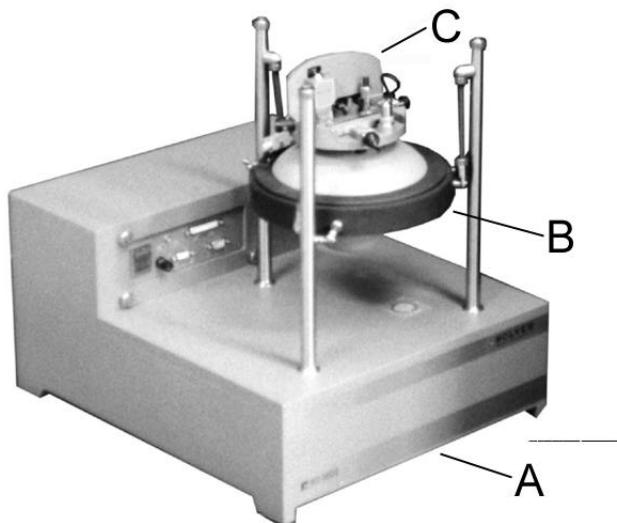
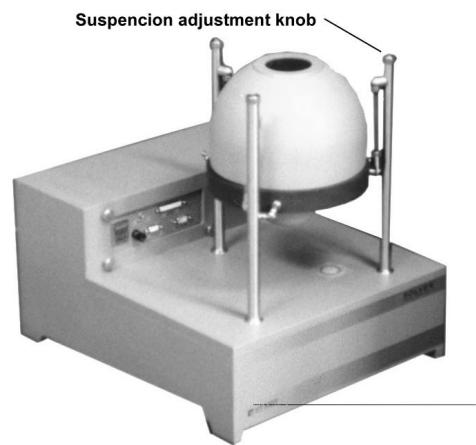

Fig. 12
Fig. 14
SOLVER SPM contains a housing with electronic circuitry and processor within it (Fig. 12.A), vibration-protection system, a suspended piezosscanner (Fig. 12.B), a set of measuring heads, computer interface card. The piezosscanner is provided with a mounting for samples being investigated and an outlet for plugging in the thermal table. The basement of the microscope contains a power unit and an electronic printed-circuit board i.e. processor controlling the operation of the microscope in different modes: STM and SFM. Various heads of the SEM: STM, AFM, NearField etc. (Fig. 12, C) are mounted on the platform. Depending upon this the microscope can operate in different modes.
- 1) P47-SPM - base, power unit and an electronic board built-in the cabinet (Figure 12.A), suspension system (Fig. 12.B) with piezosscanner and approach system, protective cover for acoustic isolation and electromagnetic shielding (Fig. 14).